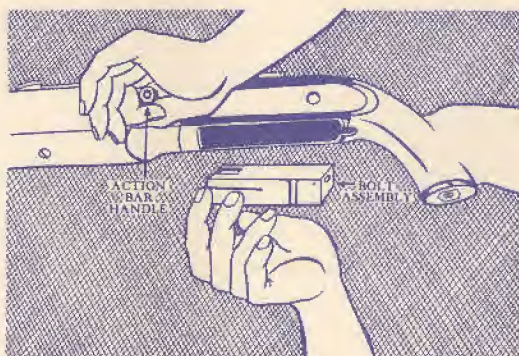

Figure 5
**BOLT:** May be disassembled (see figure 5) by grasping retracting handle and pulling toward the rear, permitting the bolt assembly to drop into the hand. The gun is now completely disassembled for cleaning purposes.